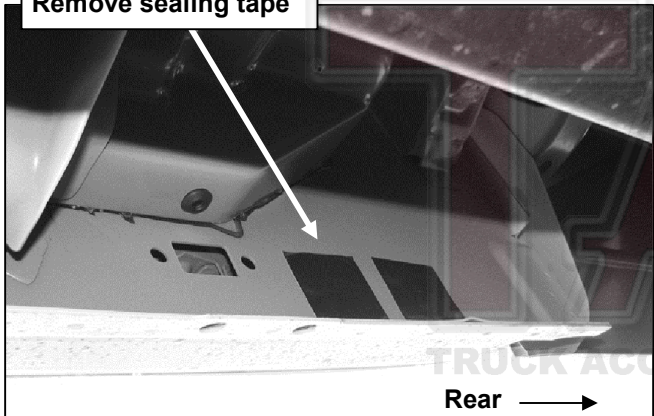

Fig 4
- Moving to the rear, locate the factory large round hole and smaller oval hole in the inner body panel. **NOTE:** Remove sealing tape or plugs as necessary, **(Figure 4)**. Select (1) 12mm Double Bolt Plate.